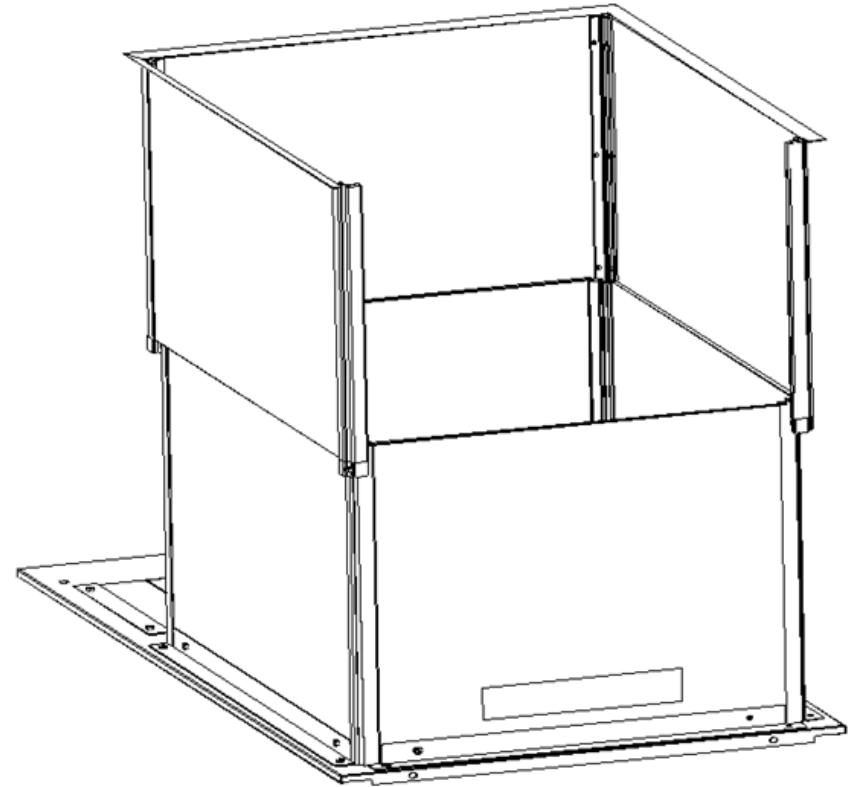

Fig. 6
6. Put top part of VED into the bottom part(Fig. 6)